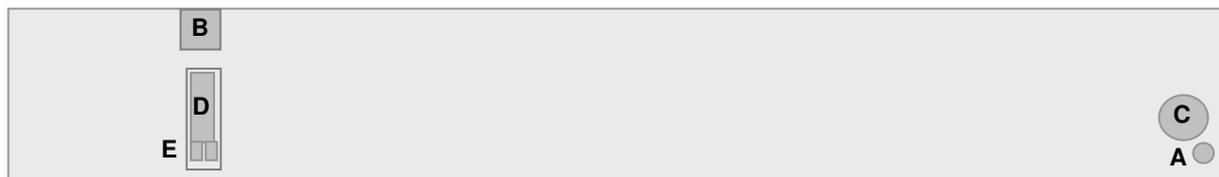

Figure 1: Connectors (back view)
Connection sockets are located on the back of the module (Figure 1). Besides to the supply and USB connectors the MCP747 module has some other sockets, these are provided for future system expandability. A DIN 5 pole socket "C" is used to link auxiliary CPflight modules (EFI747).
Expansion of the MCP747 module is provided via the DIN 5 pole socket in the rear (Figure 1 “C”). This allows you to connect and interface the MCP747 to other CPflight plug & play expansion modules (EF1747). For more information about modules and expansion boards refer to CPflight website.
An extra 14 pole connector (Figure 1 D) is provided to connect some auxiliary functions (see following):
WARNING! The use of the auxiliary connector (Figure 1 D) is intended for experienced users only. To use these auxiliary functions it is necessary to connect external switches/pushbuttons etc. Do not connect anything coming from any external power source or anything not listed in the following instructions; warranty does not cover damages due to incorrect wiring of any external device.
- Insert the two jumpers (provided) on the pins located on the back of the MCP as (see Figure 1 “E”)...